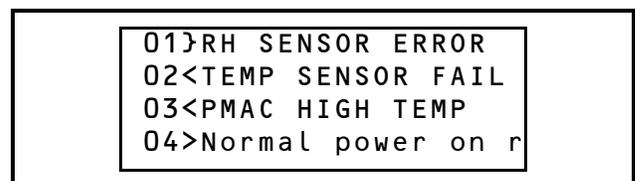

Figure 1-28 - Alarms List After RH Sensor Error was Viewed
4. Once an alarm has been viewed and acknowledged, press the  button to exit the alarm and go back to the alarm log list. Note that the greater-than or less-than sign next to the alarm has now changed to a single brace sign (**Figure 1-28**).